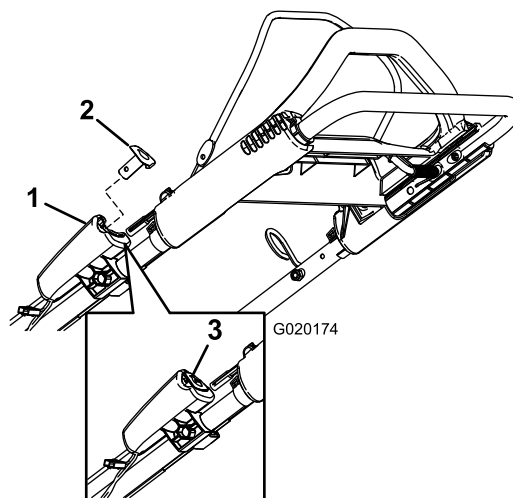
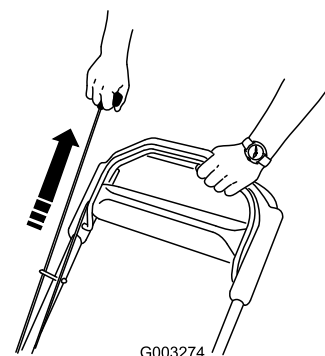

Figure 17
Figure 18
2. Push the electric-start button (Figure 17) or pull the recoil-start handle (Figure 18).
Note: If the electric-start button has been removed, insert it in the electric starter; refer to Figure 17.